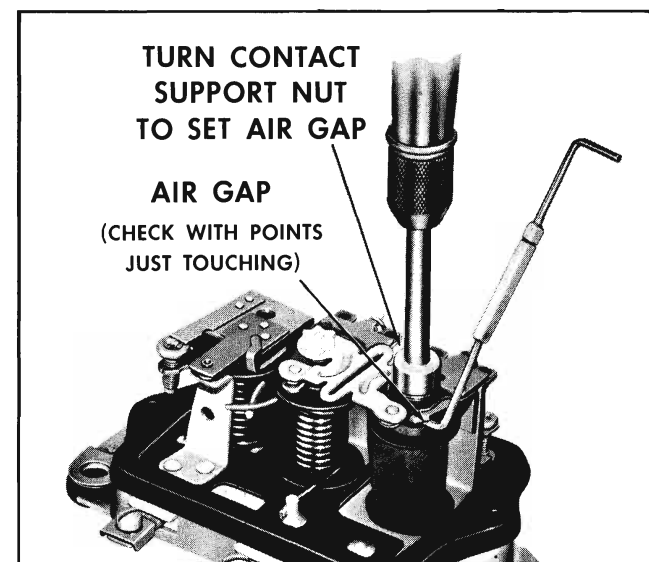

Fig. 11-47 Adjusting Voltage Regulator Air Gap on Single Contact Voltage Regulator
1. Set .075" gauge (Fig. 11-47) between armature and core and push down on armature.
Check and adjust current regulator air gap in exactly the same manner as the voltage regulator is adjusted (Fig. 11-47). Air gap should be .075". Be sure